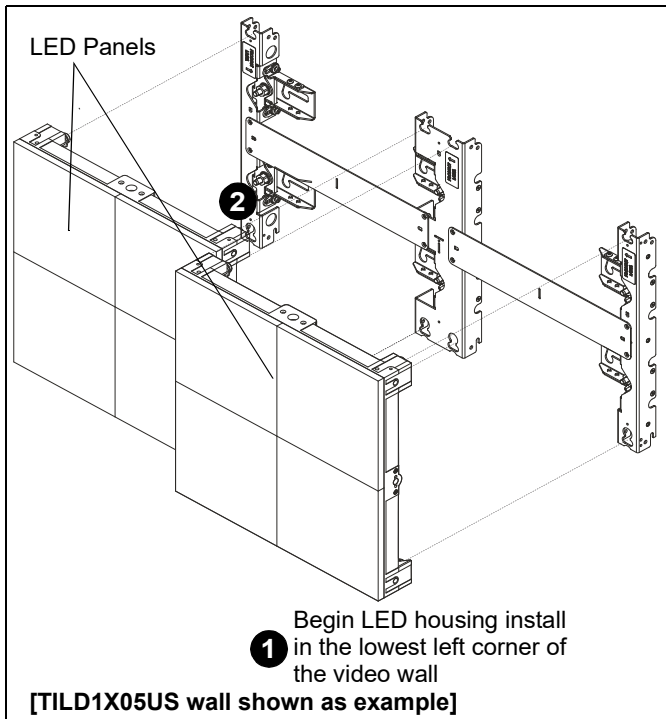

Figure 19
1. Install the first LED housing in the lowest left-hand corner of the video wall by aligning mounting buttons on the housing with the mounting holes on the wall mount. (See Figure 19)